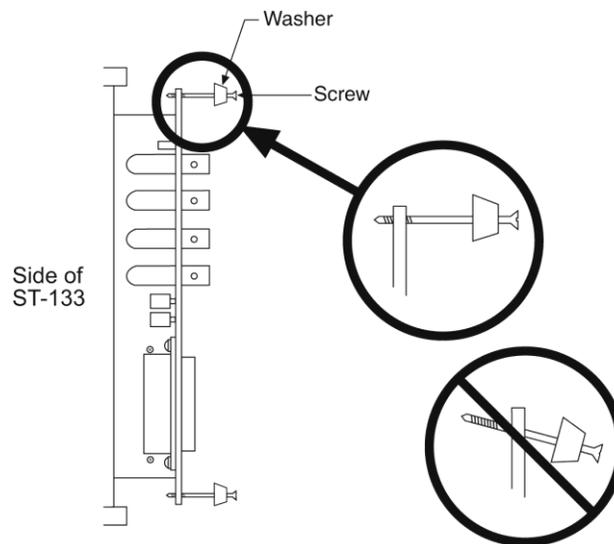

Figure 40. Module Installation
3. Rotate the two locking screws counterclockwise until the threads on the screws engage those of the module panel. *See Figure 40.* By doing this, the screws will be perfectly perpendicular to the module panel and will align perfectly when the module is inserted.